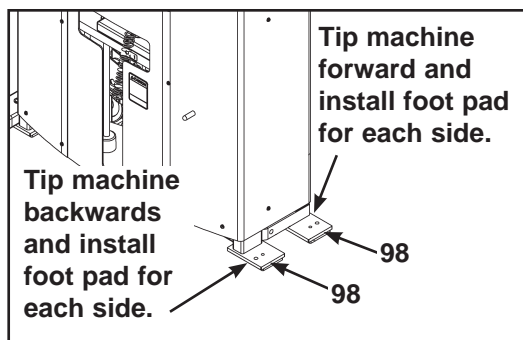

Figure 3
3. Installing foot pads onto frame (see steps 3A - 3E and Figure 3).
- B. Carefully tip FT-360S forward (do not exceed 30 degrees) or just enough to install the foot pads. See Figure 3 on next page.
- C. While one person is holding the FT-360S in a tipped position, remove the backing from two of the foot pads and install foot pads 3.00 x 5.00 (#98) onto frame as shown in Figure 3 and then carefully lower FT-360S.